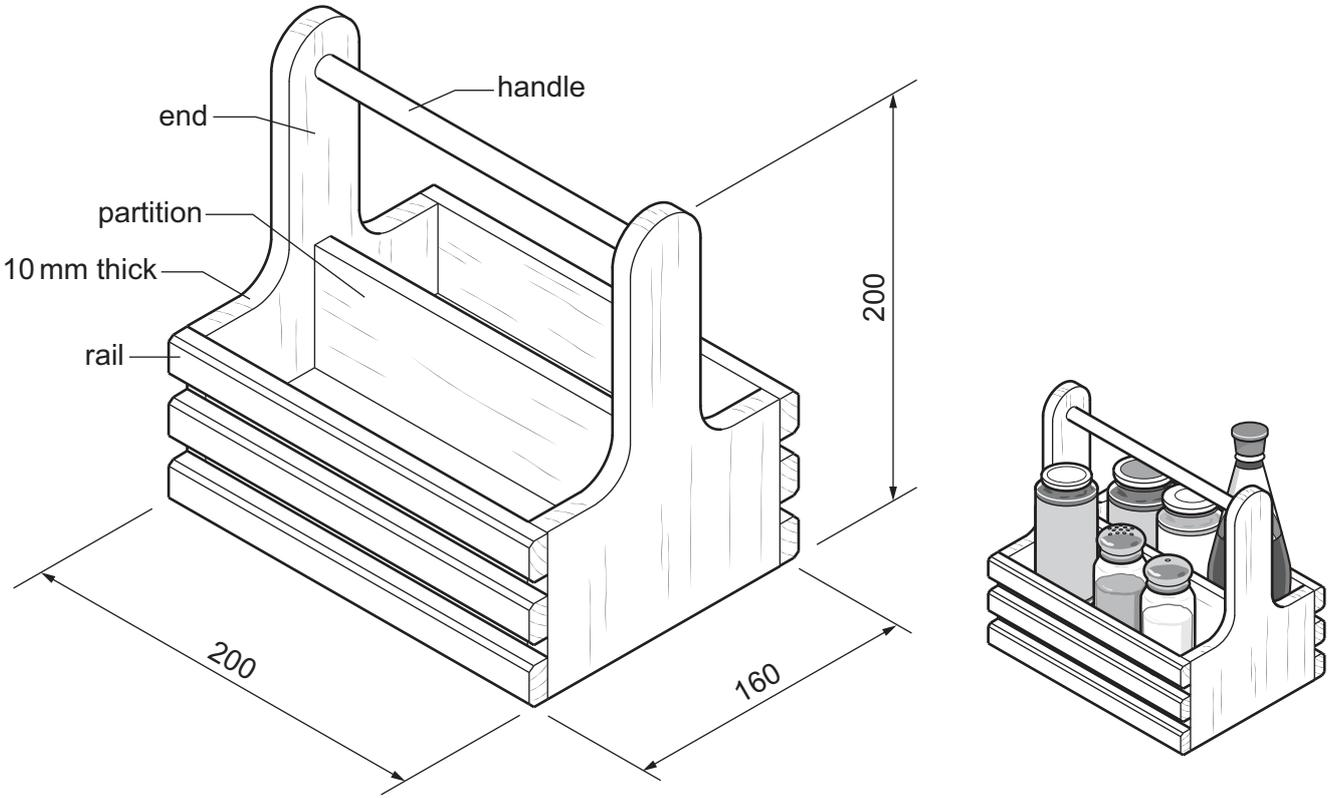

Fig. 11.1
- 11 Fig. 11.1 shows a condiment holder that has been designed and made by a group of Design & Technology students. The condiment holder is made mainly from softwood and will be used in the school dining hall.